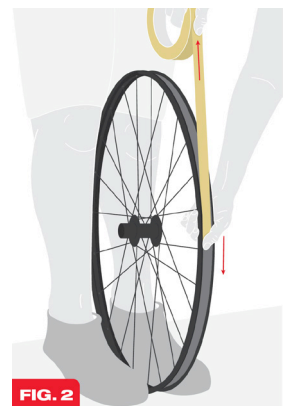

FIG. 2
- 3 Place your thumb firmly over the adhered section of tape to keep it in place. Position the rim so that the free length of tape is in a straight line with the adhered section of tape. This position will allow you to apply the proper amount of tension on the tape (Figure 2).